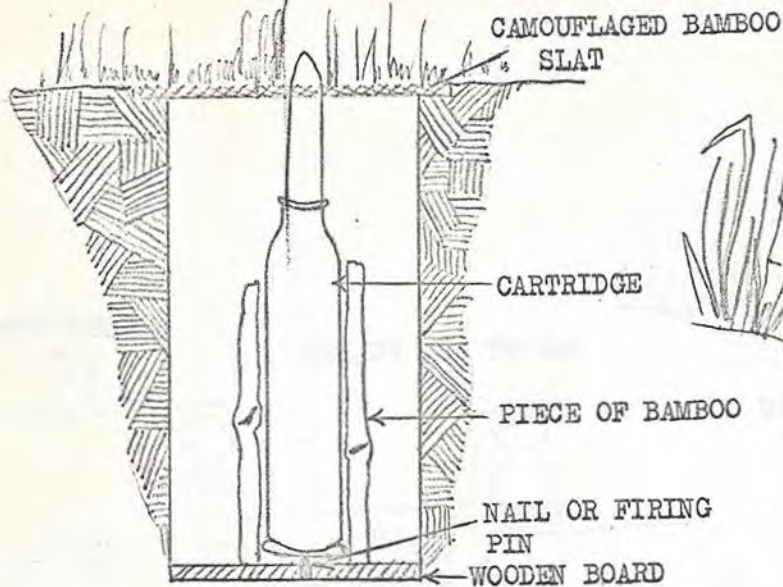

FIG 60. CARTRIDGE TRAP
a. Cartridge Trap: This common booby trap is designed to maim the foot of the individual that steps on this trap. It consists of a cartridge planted in the ground with the projectile protruding very slightly, and under pressure from the foot, will fire upward when the primer strikes a nail or other firing device. (Figure 60).